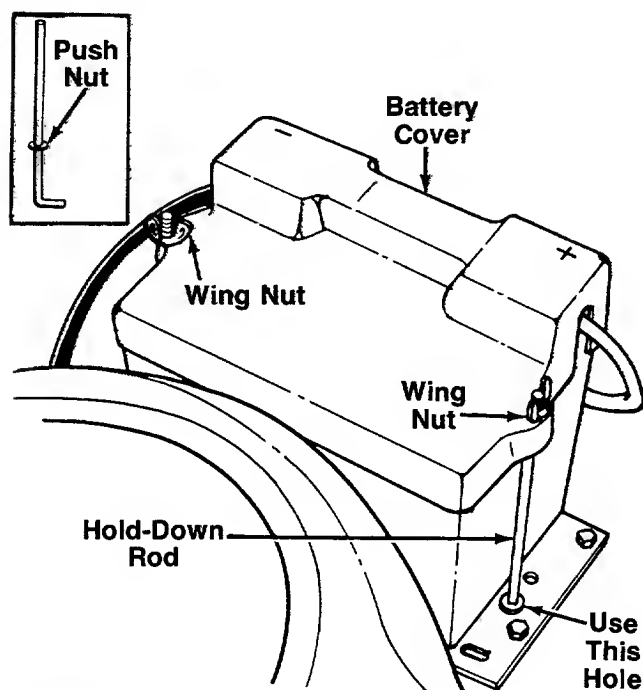

FIGURE 7.
4. Attach one push nut to each battery hold-down rod. See figure 7, inset.
5. Hook one hold-down rod into the hole in battery plate beside the battery as shown in figure 7. Slide the push nut down the rod, against the battery plate. Place the black plastic battery cover in position over the hold-down rod. Secure with wing nut.